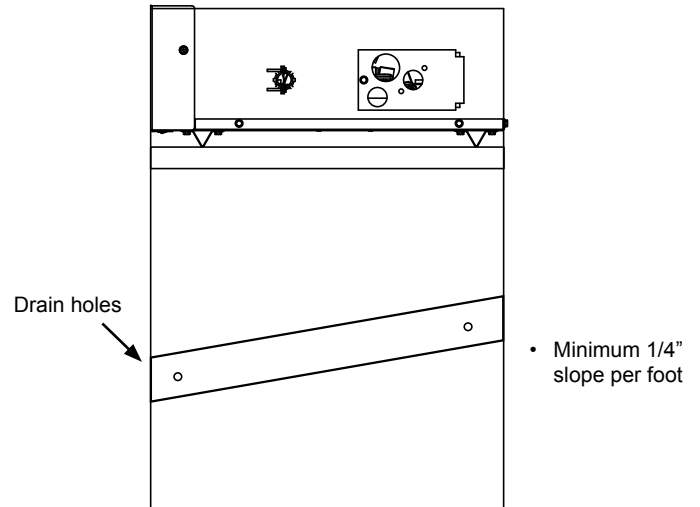

Figure 2. Drain pan installed under unit.
4. Pass through holes are located on the side and rear to fasten the pan to the enclosure as shown in Figure 2.